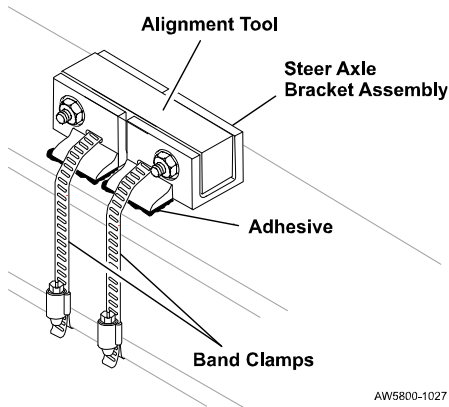

Figure 8. Placing Brackets on the Steer Axle
4. Place a band clamp (p/n: 139-0016-000) through the slot in the bottom of each bracket and wrap the band clamp around steer axle. See Figure 8.